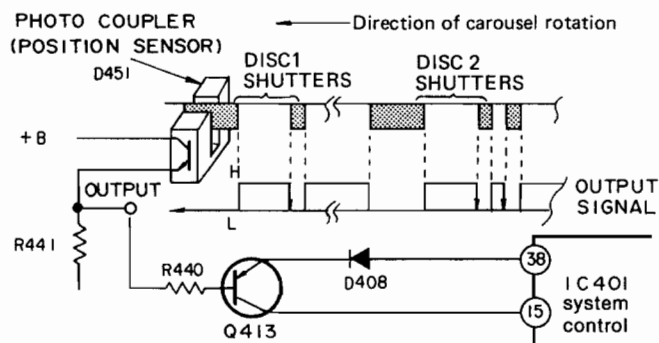

Figure 9 Pulse Generation and Detection
B) Detection circuit (Refer to figure 9)
When the carousel rotates, the pulse train shown in the figure 9 is generated at the photocoupler.